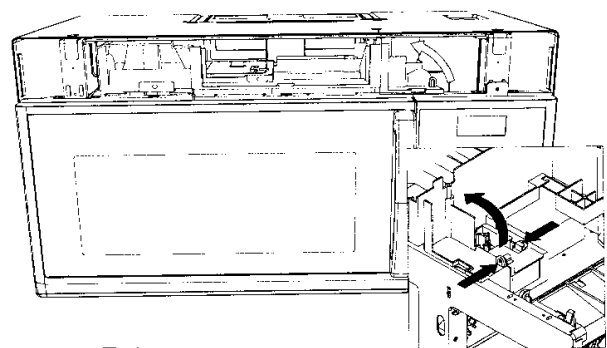

FIGURE .4
3. Depress snap lock on lens cover and rotate light housing upward. (See Figure 4)